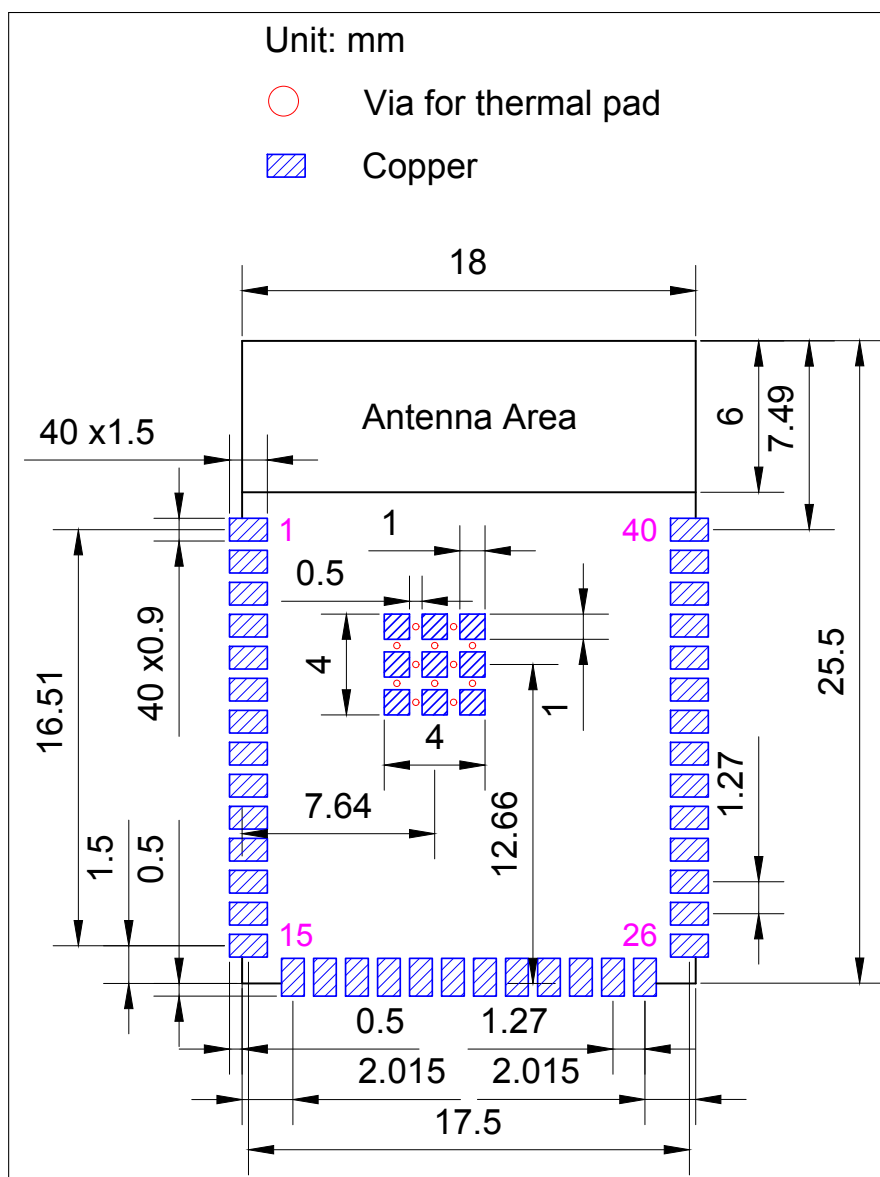

Figure 7: Recommended PCB Land Pattern
- Figure for recommended PCB land pattern with all the dimensions needed for PCB design. See Figure 7 Recommended PCB Land Pattern.
- Source file of recommended PCB land pattern to measure dimensions not covered in Figure 7. You can view the source files for ESP32-S3-WROOM-2 with Autodesk Viewer.